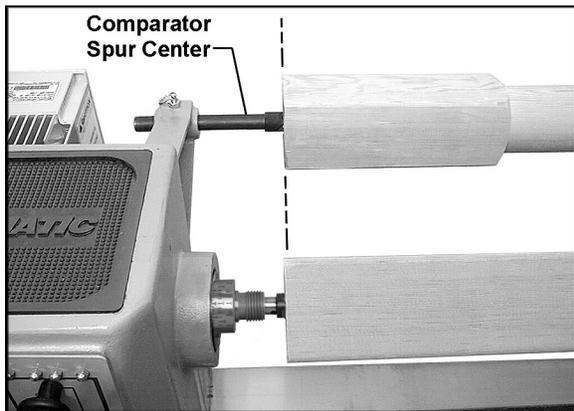

Figure 29
2. Install comparator *spur center* into guard bracket, by lifting up on plunger and inserting comparator spur center until its point is about even with the point of the spur center in the headstock spindle. See Figure 29. The plunger in the bracket should engage one of the holes in the comparator center at this position.